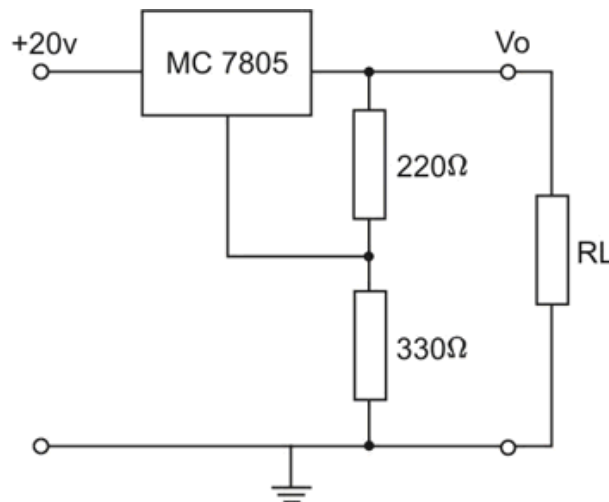

Figure 16.
3. Calculate the output voltage for the circuit on Figure 16.